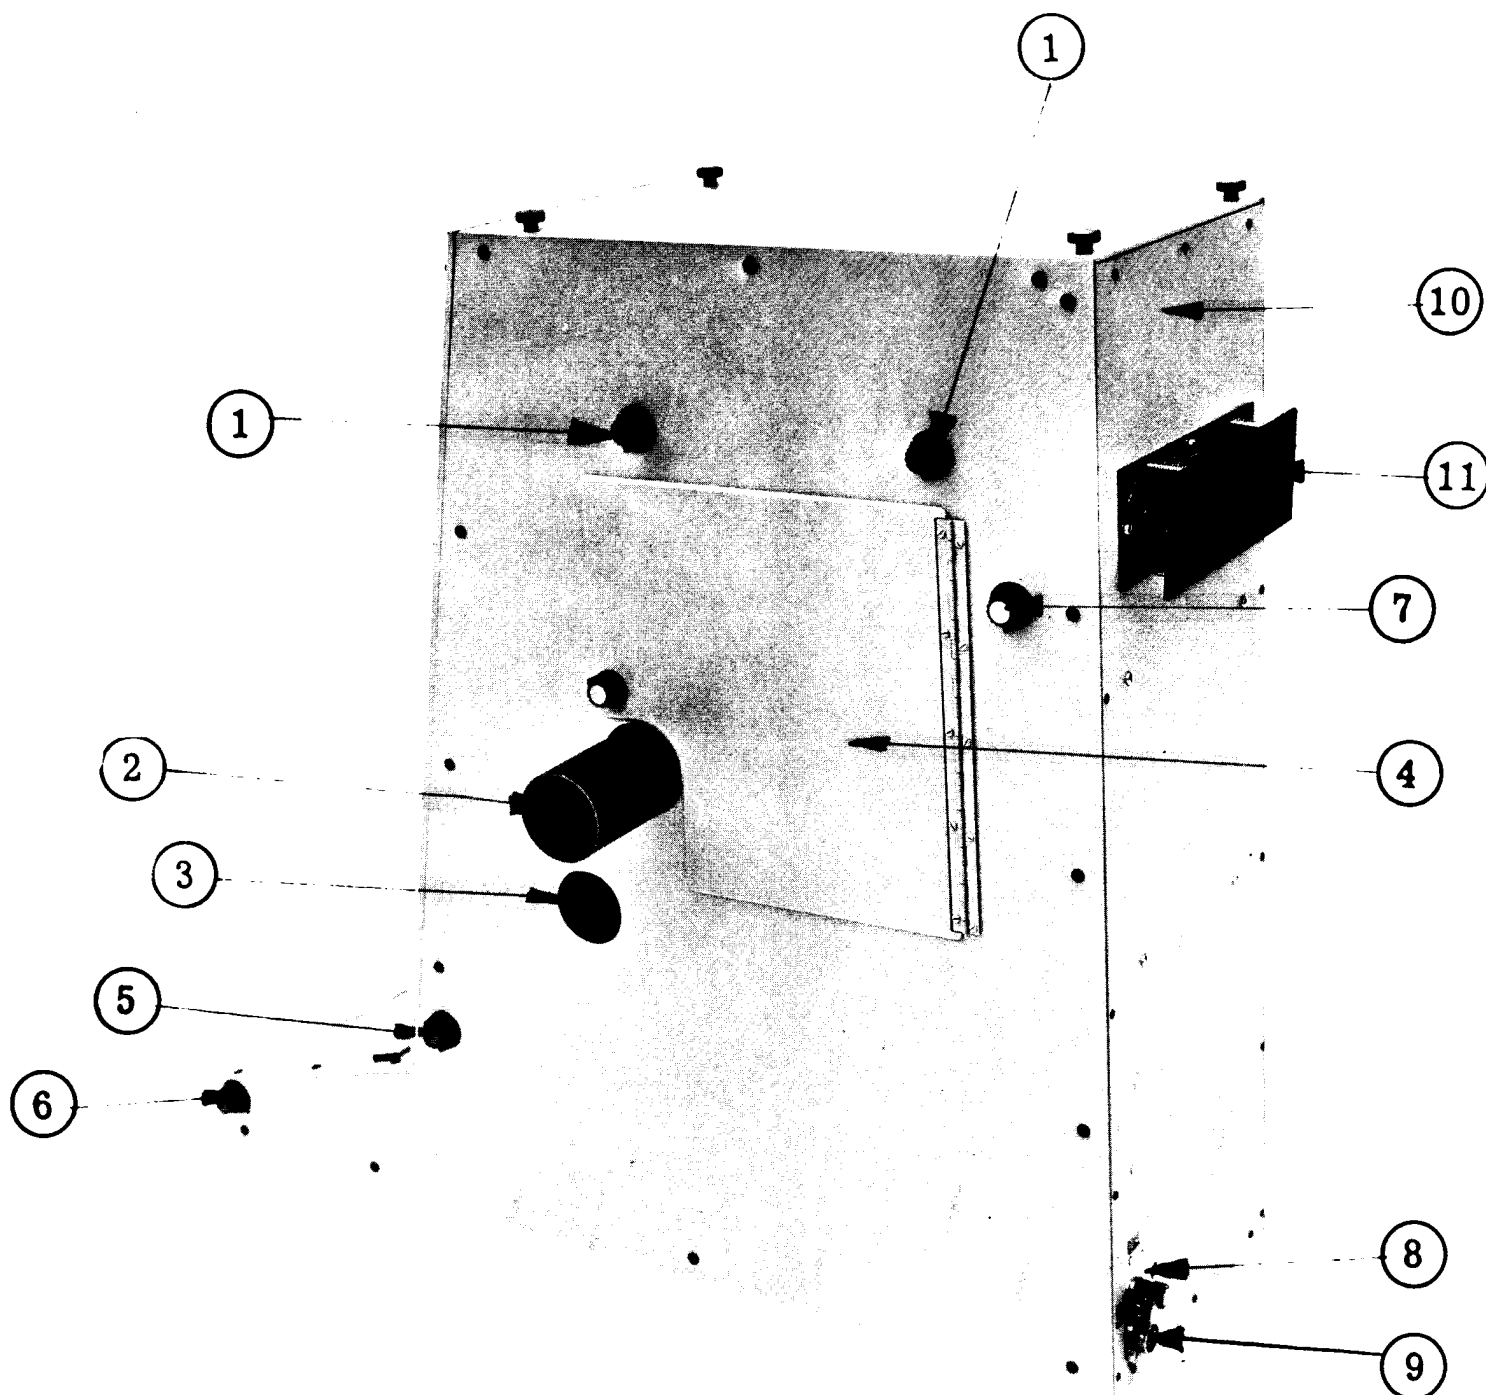
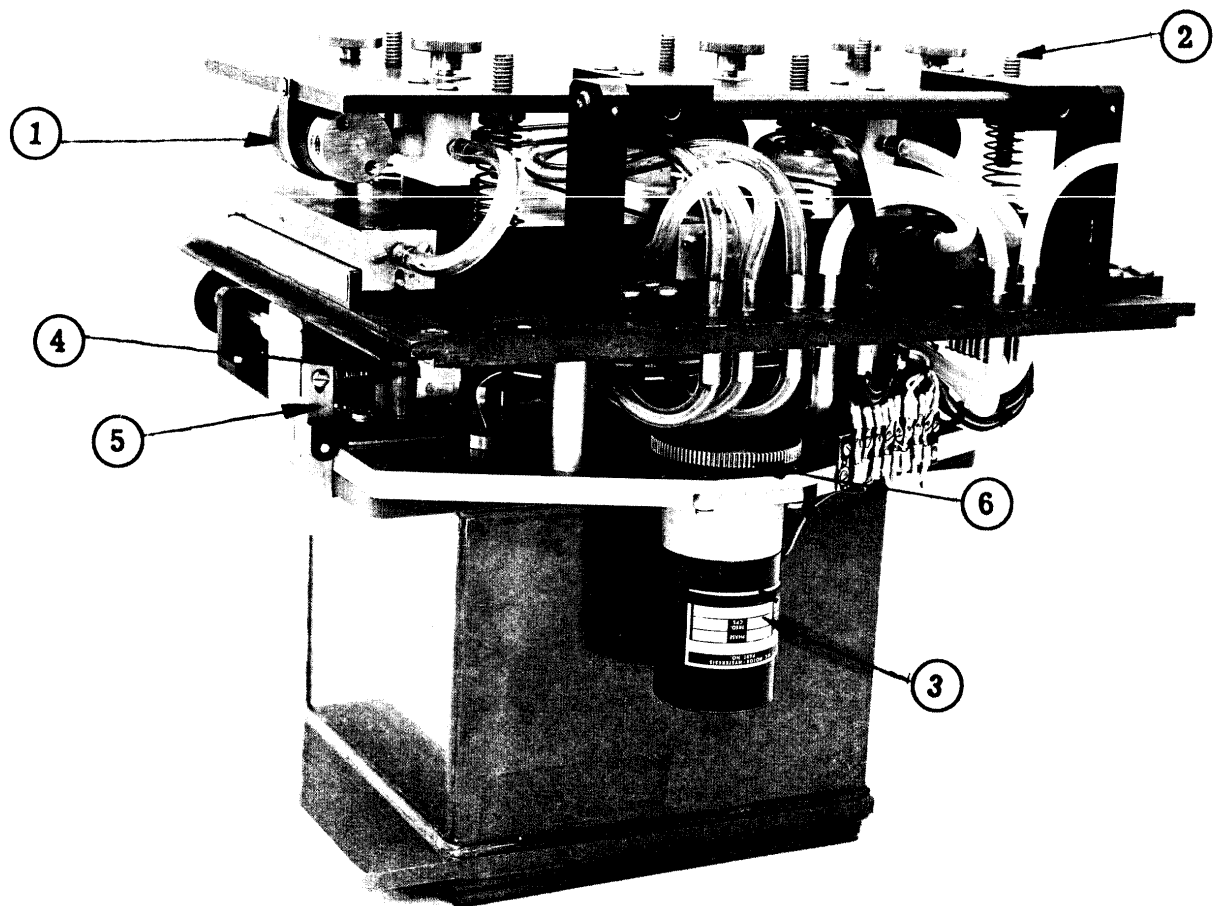

FIGURE 1-2 CONSOLE SIDE AND REAR
FIGURE 1-4 PROCESSING ASSEMBLY (APPLICATORS AND TANK IN OPERATING POSITION -VIEW FROM OPPOSITE SIDE)
b. Remove tank (callout 3, Figure No. 1-3), by turning the (2) red coded knobs (callout 1, Figure 1-2) clockwise until tank drops onto two (2) latches (callout 4, Figure 1-4).